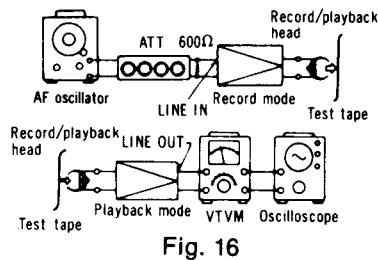

Fig. 16
<p>Overall gain [TAPE [2]]</p> <p>Condition:</p> <ul style="list-style-type: none"> Record/playback mode Normal tape mode Input level controls ... MAX Standard input level; <ul style="list-style-type: none"> MIC -59.5 ± 4 dB LINE IN ... -24 ± 4 dB <p>Equipment:</p> <ul style="list-style-type: none"> VTVM AF oscillator ATT Oscilloscope Resistor (600Ω) Test tape (reference blank tape) ... QZZCRA for Normal 	<p>1. Test equipment connection is shown in fig. 16.</p> <p>2. Place UNIT into Normal tape mode, and load the test tape (QZZCRA).</p> <p>3. Place UNIT into record mode.</p> <p>4. Supply 1 kHz signal (-24dB) from AF oscillator, through ATT to LINE IN.</p> <p>5. Adjust ATT until monitor level at LINE OUT becomes 0.4V.</p> <p>6. Playback recorded tape, and make sure the value at LINE OUT on VTVM becomes 0.4V.</p> <p>7. If measured value is not 0.4V, adjust VR3 (L-CH), VR4 (R-CH).</p> <p>8. Repeat from step (2).</p>  <p>Fig. 16</p>
on is shown in fig. 16.